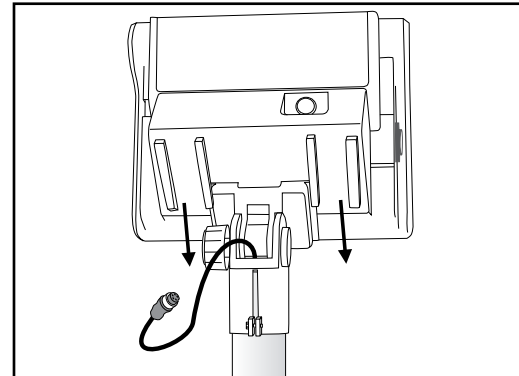

Figure 6
12. Slide the Display Indicator onto the Support Bracket. Adjust the angle of the display by loosening the knob on the Support Bracket. Tighten the knob when finished adjusting the angle. (See Figure 6)